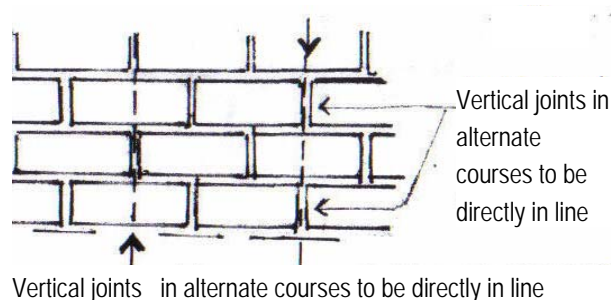

Fig 13 - **Vertical joints in brickwork**
- Made sure that all vertical joints in alternate courses are directly over the other (See fig. 13)